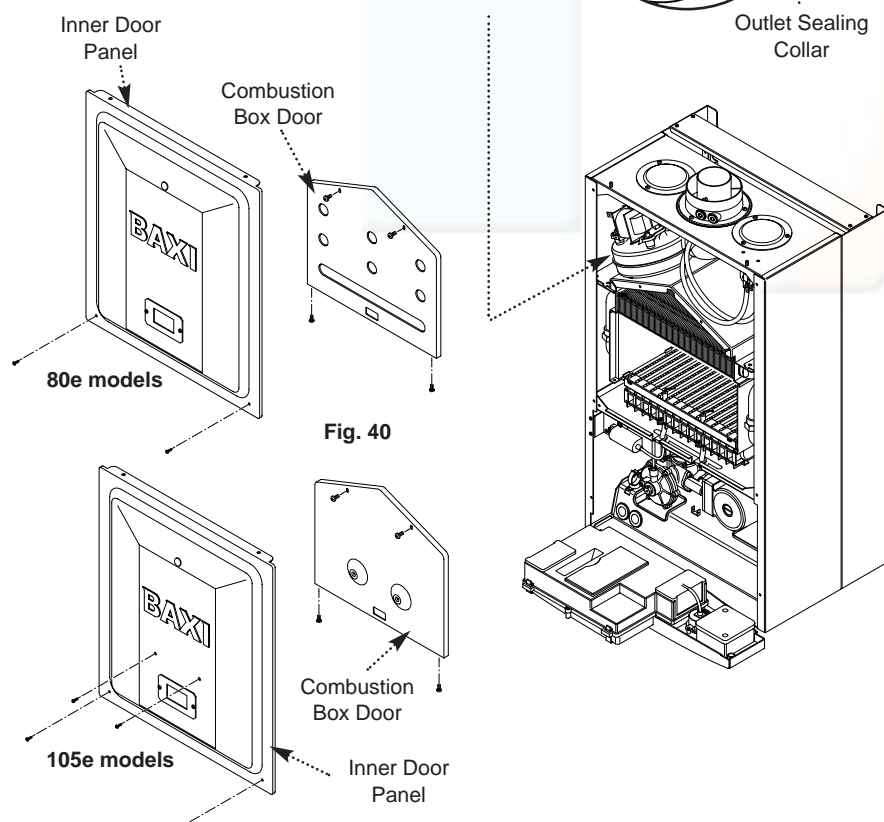

Fig. 40
6. Remove the screws (2 on 80e, 4 on 105e) securing the inner door panel. Lift the panel slightly to disengage it from the studs on top of the case (Fig. 40).
9. Remove the four screws securing the combustion box door and remove the door (Fig. 40).